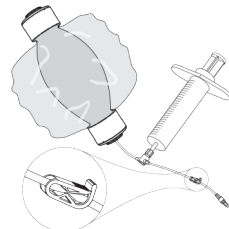

Figure 1
- a. Close the clamp on the reservoir tubing (see Figure 1).
The Compression Unit (the pump) is packed in a separate sterile pouch located in the main box or container. It can be filled away from the patient, i.e. in the pharmacy or other approved location (see Figure 1).
2. Close the "c" clamp (Figure 1) at the exit port.
- Close the clamp on the reservoir tubing (see Figure 1).